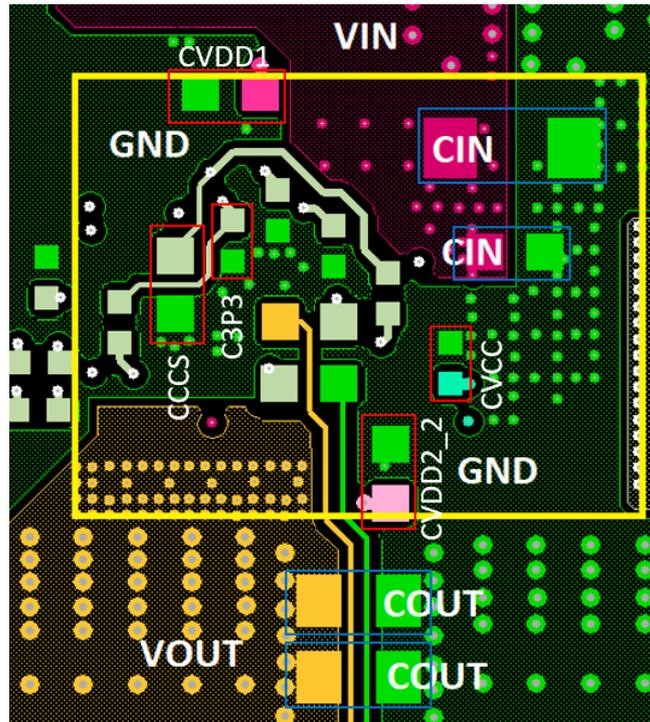

Figure 40. Layout Example - Bottom Layer
- Place the VDD1, VDD2_2, CVCC, CCCS, C3P3 bypass capacitors on the bottom side of the board, underneath the module close to their respective pins for optimum decoupling. A layout example is shown in Figure 40.